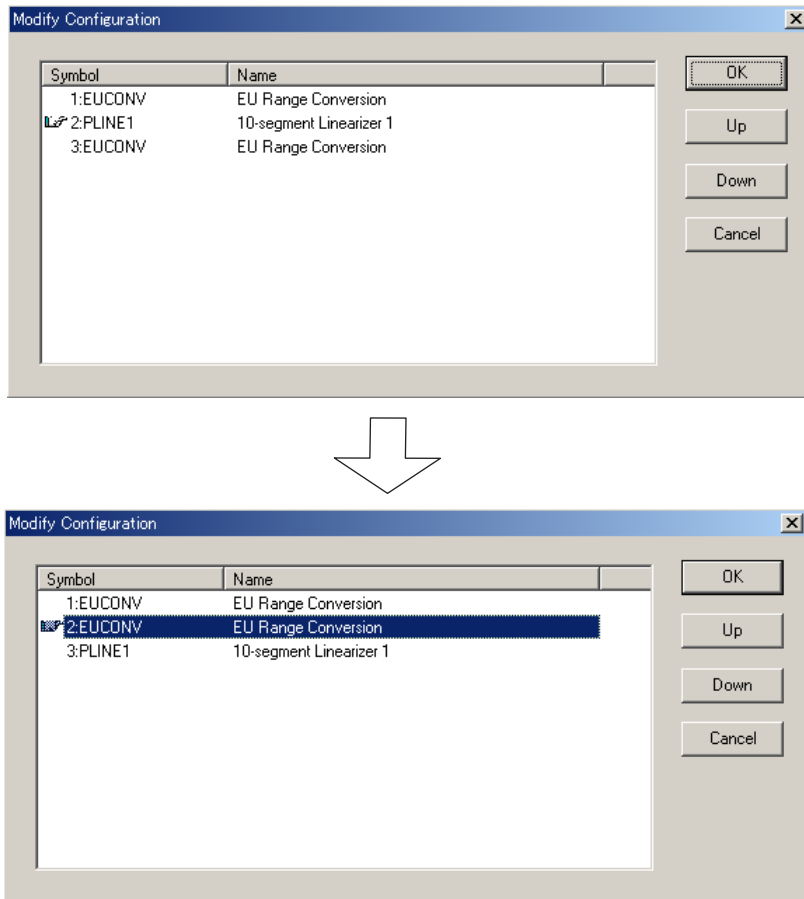

Figure 6.1.5 [Modify Configuration] Dialog Box
- (1) With the [Input Block] or [Output Block] dialog box shown, click the computation module, and choose <Edit [E]> from the tool menus, and then <Modify Configuration>, from the Editing menu. The [Modify Configuration] dialog box (Figure 6.1.5) appears. This dialog box lists the preregistered computation modules in their order of execution.